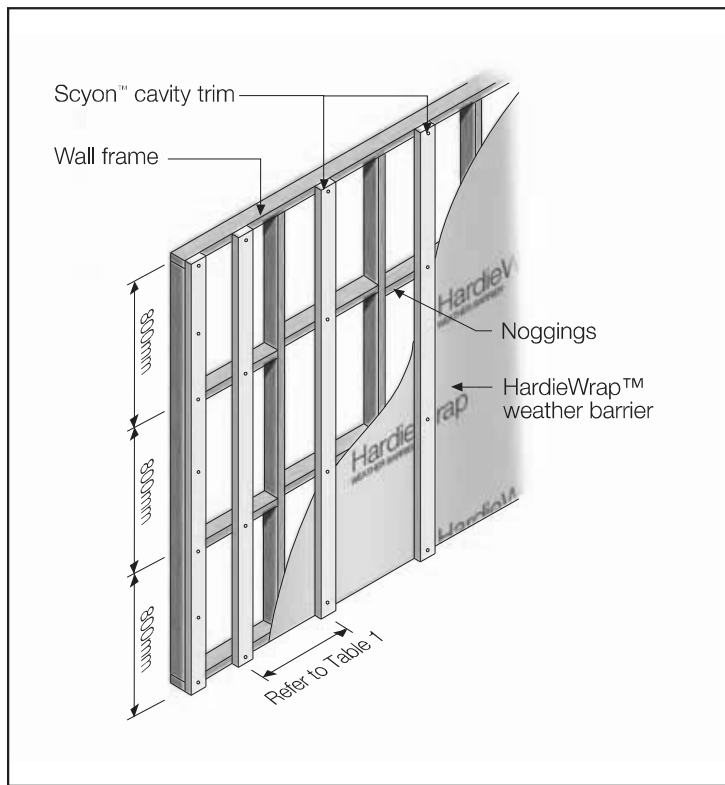

FIGURE 5 OFF-STUD FIXING
* In the case of fixing the cavity trim off stud, the fastener spacing will be at each support i.e. a maximum of 800mm centres, see Figure 5.
The Scyon™ cavity trim can be installed off-stud over the HardieWrap™ weather barrier. It is important that horizontal supports (noggings) are installed at a maximum of 800mm vertical centres. A specified fastener is fixed at the intersection of every support, see Figure 5. For Scyon cavity trim and stud spacings, refer to Table 1.